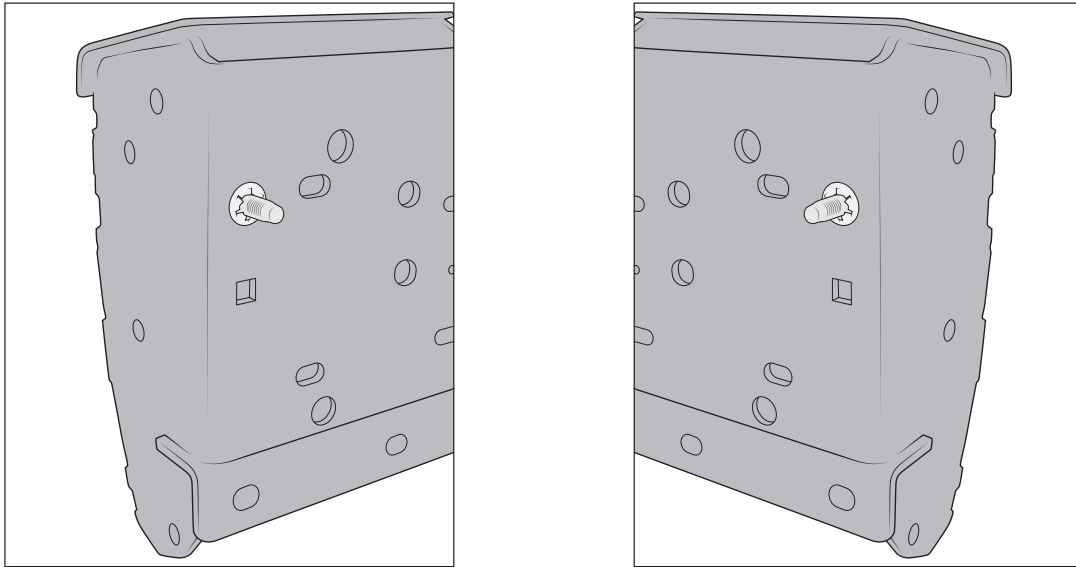

Figure 9
4. Install two M12x35 carriage bolts in the upper-outside corners of the Center Section and secure with push nuts (fig. 9)